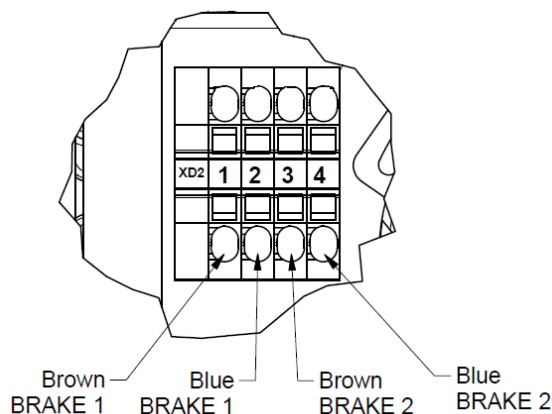
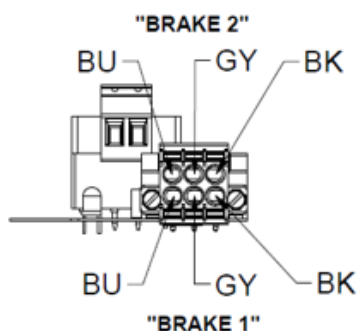

Figure 28. Brake wire terminal configuration
Figure 29. Brake sensor wiring configuration
2. Install the Brake 1 disc, circlip and Brake 1 (1) to the shaft.
3. Install the Brake 2 disc and Brake 2 (2) to the shaft.
4. Install the three bolts (3) and washers to the end of Brake 2 (2). Torque the bolts to 5.0 Nm.
5. Install the four brake supply wires (6) to the original positions in the brake wire terminal (7). Refer to Figure 28 for details.
6. Install the encoder (5) to Brake 2 (2) with the two M3 lock nuts (4). Torque the nuts to 0.5 - 1.0 Nm.
7. Attach the encoder shaft collar to the underside of the encoder (5) with the loosened screw (9, Detail 'A'). Torque the screw to 1.1 Nm.
8. Reconnect the brake sensor wires to the brake sensor Phoenix connector - refer to Figure 29 for wiring details.
9. Install the brake sensor Phoenix connector to the brake termination assembly (8).